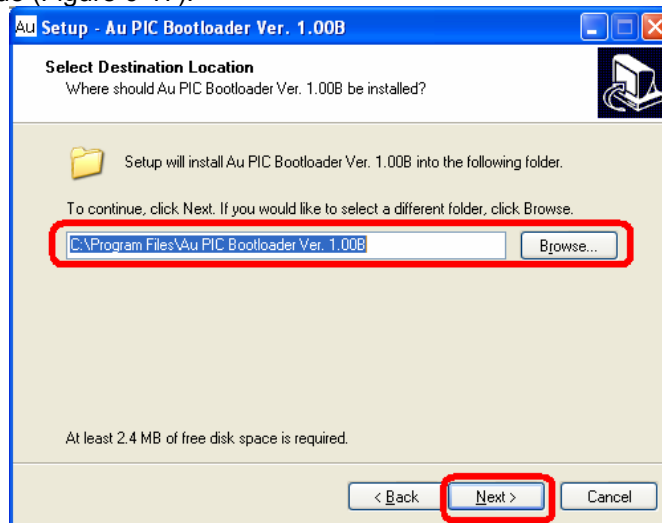

Figure 6-17
4. A "Select Destination" window will pop up, use default path: C:\Program Files\ AU PIC Bootloader", then click "next" to continue (Figure 6-17).